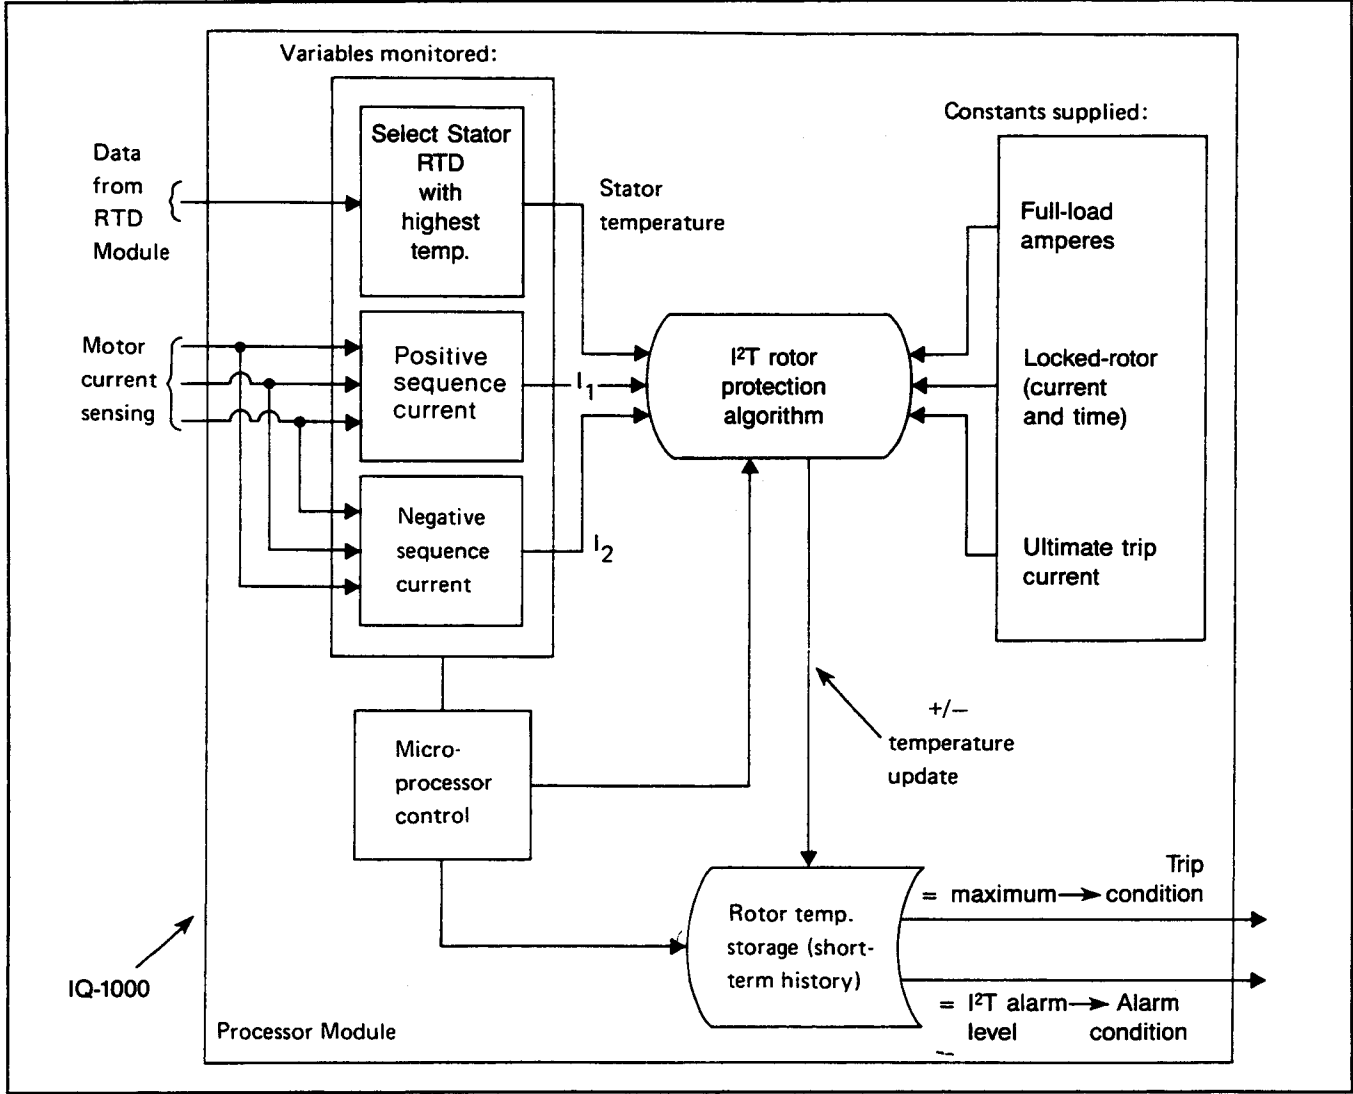

Figure 7.1 — Rotor Temperature Tracking
To do this, the IQ-1000 maintains a short-term history of the motor's operation. (See Figure 7.1.) The following variables are used as input data for the history:
- This data can be considered as the feedback from the motor. (See Figure 7.1.)
- Full-load amperes (item 33)
- Locked-rotor current (item 12)
- Maximum allowable Stall time (item 13)
- Ultimate trip (item 14)
- Winding temperature trip value (item 1)